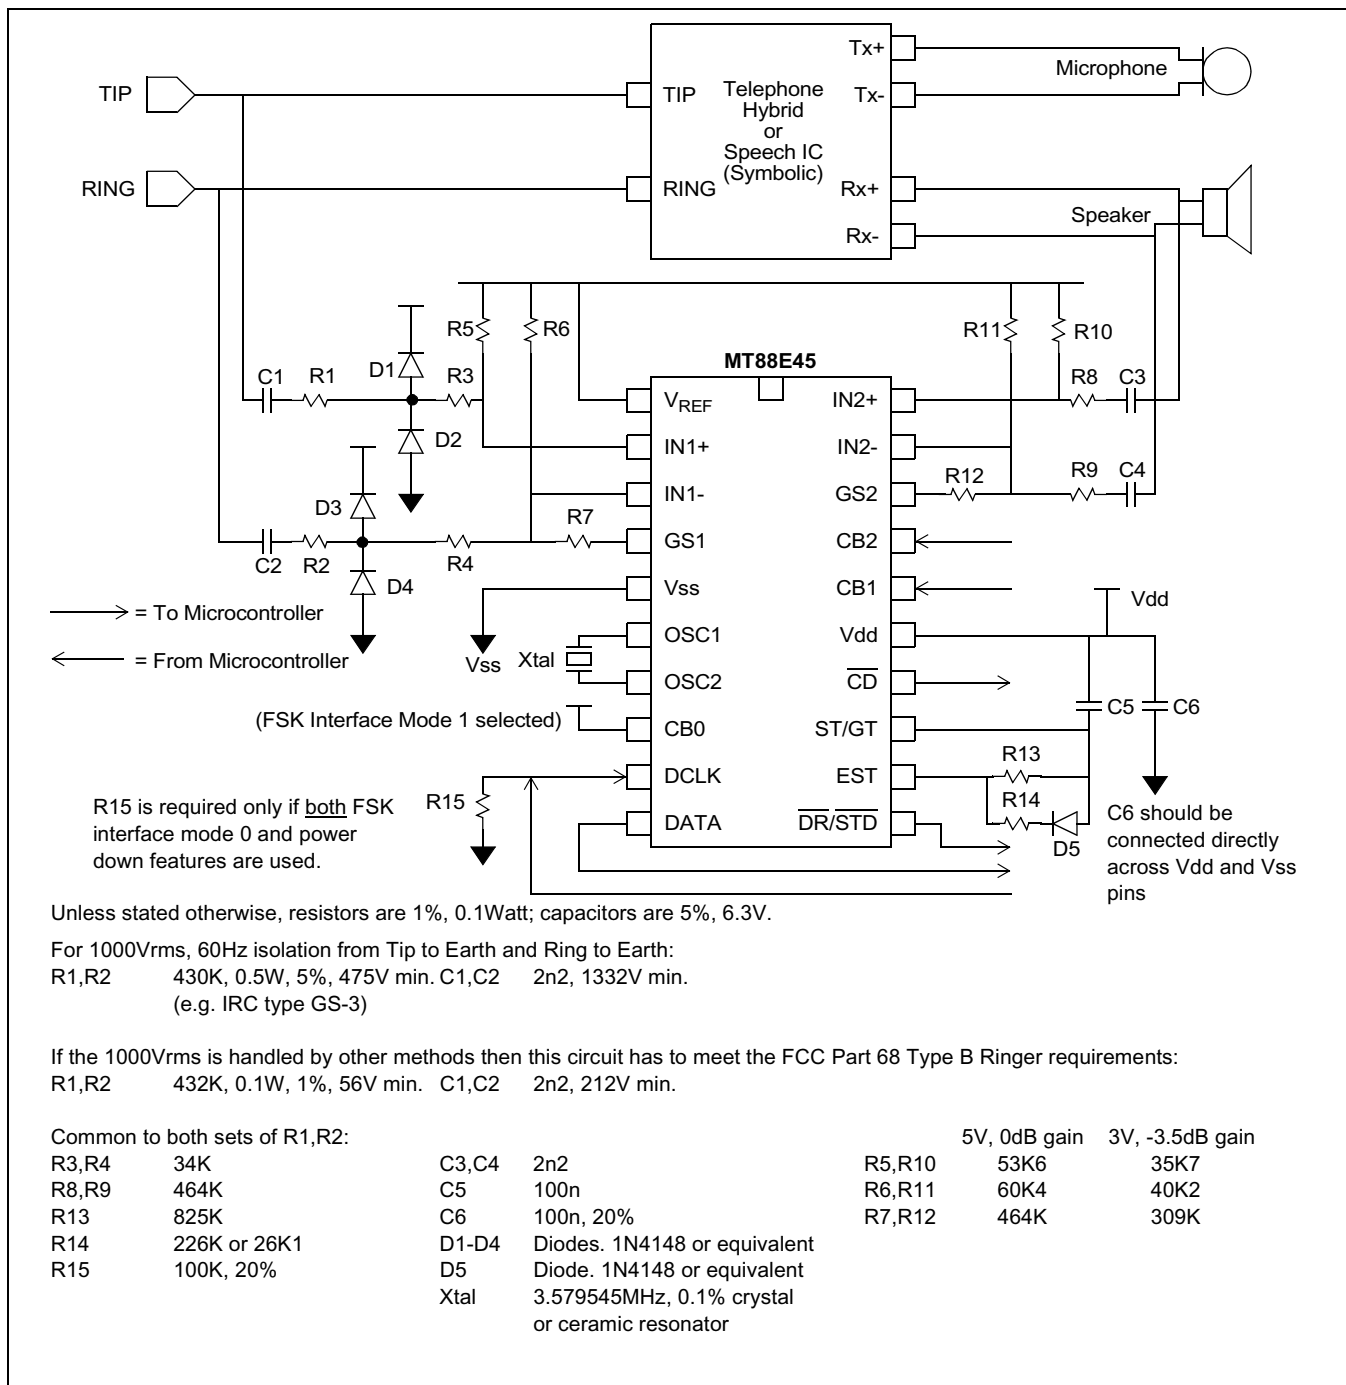

Figure 7 - Application Circuit: Bellcore MEI Compatible Type 2 Telephone
In power down mode both input op-amps, V_{REF} and the oscillator are non functional. DCLK becomes an input because to select the power down state CB0 is 1 which will select FSK interface mode 1. If the application uses FSK interface mode 0 and the MT88E45 needs to be powered down then a pull down resistor should be added at the DCLK pin to define its state during power down (R15 in Figure 7). When the MT88E45 is powered down DATA, DR/STD, CD are high; EST and ST/GT are low.
- For the GS1 op-amp, start with the 0dB gain setting resistor values of $R_{5_{0dB}}$, $R_{6_{0dB}}$ and $R_{7_{0dB}}$. In Figure 7 these values are 53K7, 60K4 and 464K respectively. Keep C1,C2,R1,R2,R3,R4 as in Figure 7 to maintain the highpass corner frequency constant for all gain settings.